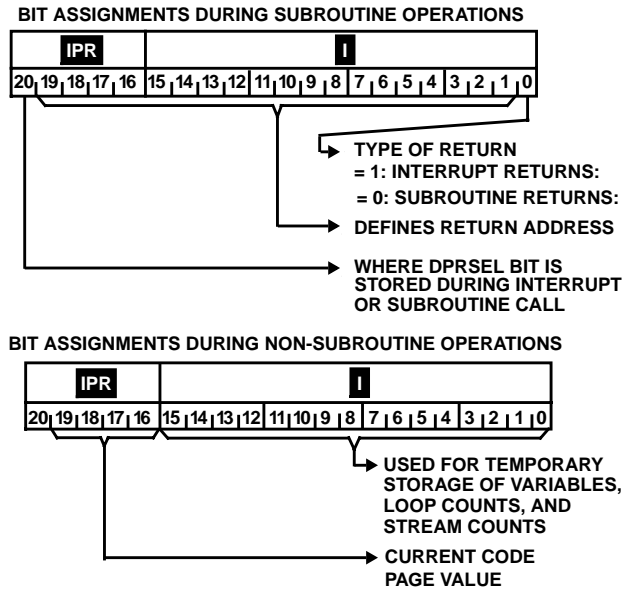

FIGURE 19. **I** AND **IPR** BIT ASSIGNMENTS
**I**: The Index Register contains 16 bits of the 21-bit top element of the Return Stack, and is also used to hold the count for streamed and loop instructions (see Figure 19). In addition, **I** can be used to hold data and can be written from **TOP**. The contents of **I** may be accessed in either the push/pop mode in which values are moved to/from stack memory as required, or in the read/write mode in which the stack memory is not affected. The ASIC address used for **I** determines what type of operation will be performed (see Table 5). When the Streamed Instruction Mode (see RTX Programmer's Reference Manual) is used, a count is written to **I** and the next instruction is executed that number of times plus one (i.e., count + 1).
**IPR**: The Index Page Register extends the Index Register (**I**) by 5 bits; i.e., when a Subroutine Return is performed, the **IPR** contains the Code page from which the subroutine was called, and comprises the 5 most significant bits of the top element of the Return Stack. See Figure 19. During nonsubroutine operation, writing to **I** causes the current Code page value to be written to **IPR**. Reading or writing directly to **IPR** does not push the Return Stack.
The data on the Return Stack takes on different meaning, depending upon whether the Return Stack is being used for temporary storage of data or to hold a return address during a subroutine operation (Figure 19).